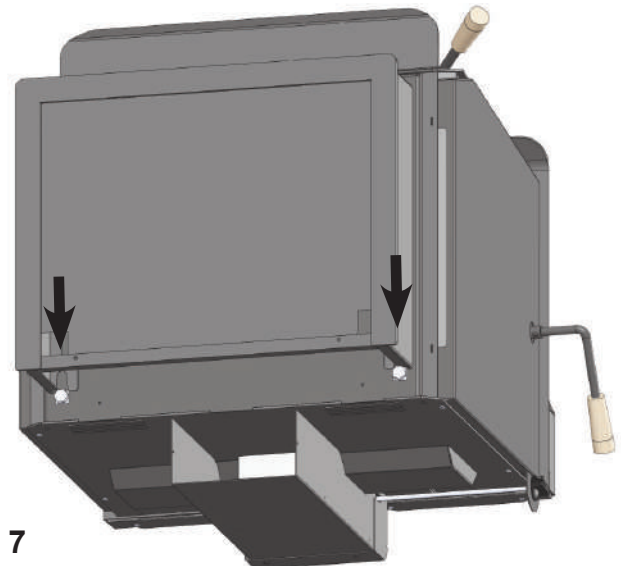

Fig. 7
3. Slide the classic base slots onto the bolts from the previous step. (Fig. 7)